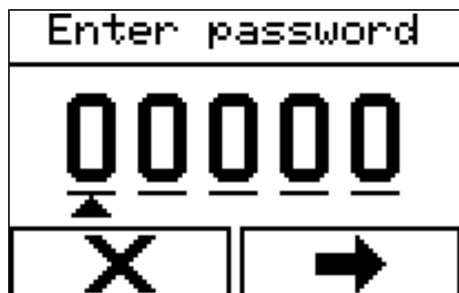

Fig. 68: 'Password' menu
- ⇒ The menu for entering the password (Fig. 68) is displayed.
#### 2. Set the basic password or the advanced password (Fig. 68).